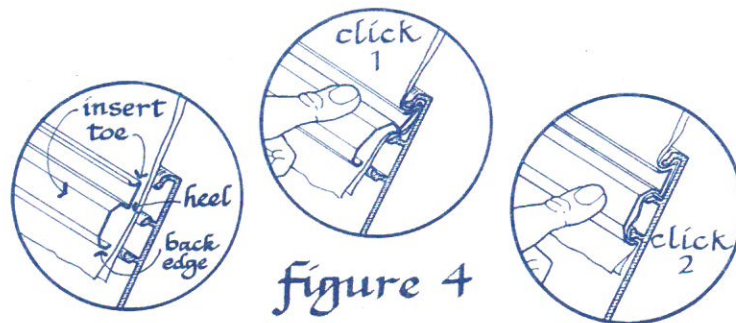

figure 4
ASSEMBLE A LOWER STRUT, AN UPPER STRUT AND A SPACER ON THE GROUND USING 2 - 3/8" MACHINE SCREWS AND NUTS, BUT LEAVING THEM SLIGHTLY LOOSE (FIG. 4) (D). THE END OF THE STRUTS WITH THE HOLES NEAREST THE END ATTACH TO THE SPACER. ASSEMBLE THIS UNIT SO THAT THE SPACER EXTENDS TO THE LEFT (LOOKING FROM OUTSIDE). INSTALL WITH THE STRUT END BISECTING THE PLATE JOINTS (E). FASTEN WITH 2 - 3/8" MACHINE SCREWS AND NUTS AT EACH PLATE - STRUT JUNCTION AND 2 - 3/8" SCREWS AND NUTS AT THE SPACER-STRUT JUNCTION, AGAIN LEAVING THEM SLIGHTLY LOOSE.
3 - TO INSTALL THE INSERT, FIRST PUSH THE TOE DOWN INTO THE ALUMINUM EXTRUSION, FORCING THE TWIN SKIN IN PLACE (FIG. 4). LISTEN FOR A 'CLICK' AS THE INSERT LOCKS ONCE. THEN PUSH THE HEEL IN PLACE AND LISTEN FOR THE SECOND 'CLICK'. CONTINUE ALONG A FEW INCHES AT A TIME UNTIL THE ENTIRE 4' LENGTH IS CLIPPED IN PLACE. GO BACK AND CHECK THE BACK EDGE AND CLICK IT INTO PLACE IF NECESSARY.